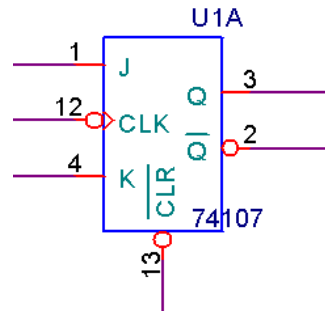

Figure B-1.
Flip Flops: It is possible using basic logic gates to build a circuit that remembers its present condition. These circuits are called flip flops. There are several different kinds of flip flops with slightly different characteristics. In this course we use the JK flip flop. A symbol for a JK flip flop is pictured in Figure B-1. JK flip flops have four inputs, two outputs and the usual two power connections (V_{CC} and ground). The outputs are labeled Q and \overline{Q} (also called Qbar and NQ). They are complements of one another. Thus, when Q is LOW, Qbar is HIGH, etc. CLK is a digital clock input. A flip flop only changes its output when the clock pulse at CLK goes from HIGH (+Vcc) to LOW (0V). This is called the “falling edge” of the clock. The input \overline{CLR} , when LOW, will reset the outputs to a known state. It has the following truth table:
- Set up the 74107 JK flip flop on the protoboard, Fig B-1.